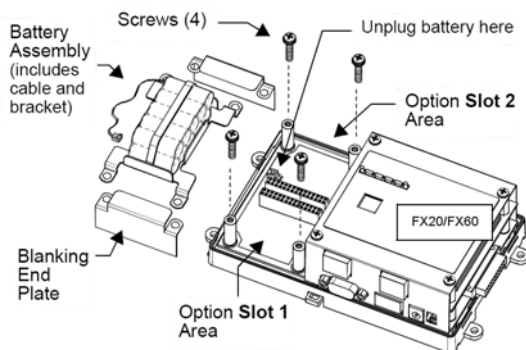

Figure 2: Removing Battery Assembly
4. Unplug the battery from the connector on the FX20/FX60/FX70 Supervisory Controller (Figure 2).
9. For an FX20/FX60/FX70 controller, plug the battery cable into the battery connector on the controller. See Figure 2 for the location.